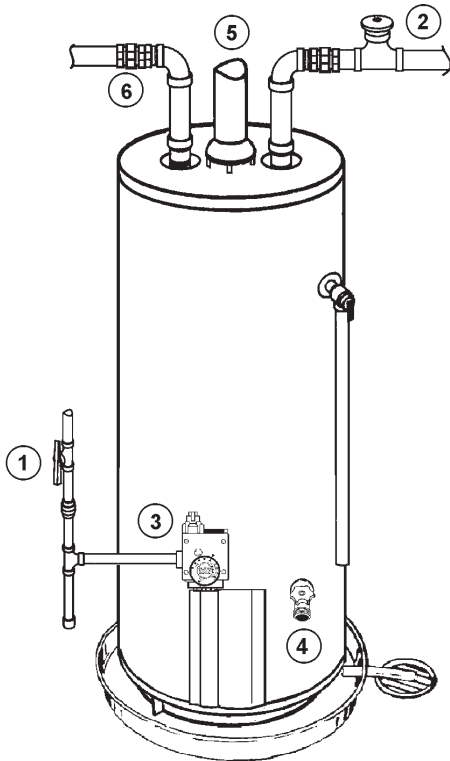

FIGURE 1.
- Carefully plan the place where you are going to put the water heater. Correct combustion, vent action, and vent pipe installation are very important in preventing death from possible carbon monoxide poisoning and fires, see figure 1 and 2.
If the main gas line Shut-off valve serving all gas appliances is used, also shut "OFF" the gas at each appliance. Leave all gas appliances shut "OFF" until the water heater installation is completed, see Figures 1 and 2.
2. Turn "OFF" the water supply to the water heater at the water shut-off valve or water meter. Some installations require that the water be turned off to the entire house, see Figures 1 and 3.
4. Attach a hose to the water heater drain valve and put the other end in a floor drain or outdoors. Open the water heater drain valve. Open a nearby hot water faucet which will relieve pressure in the water heater and speed draining. The water passing out of the drain valve may be extremely hot. To avoid being scalded, make sure all connections are tight and that the water flow is directed away from any person, see Figures 1 and 4.